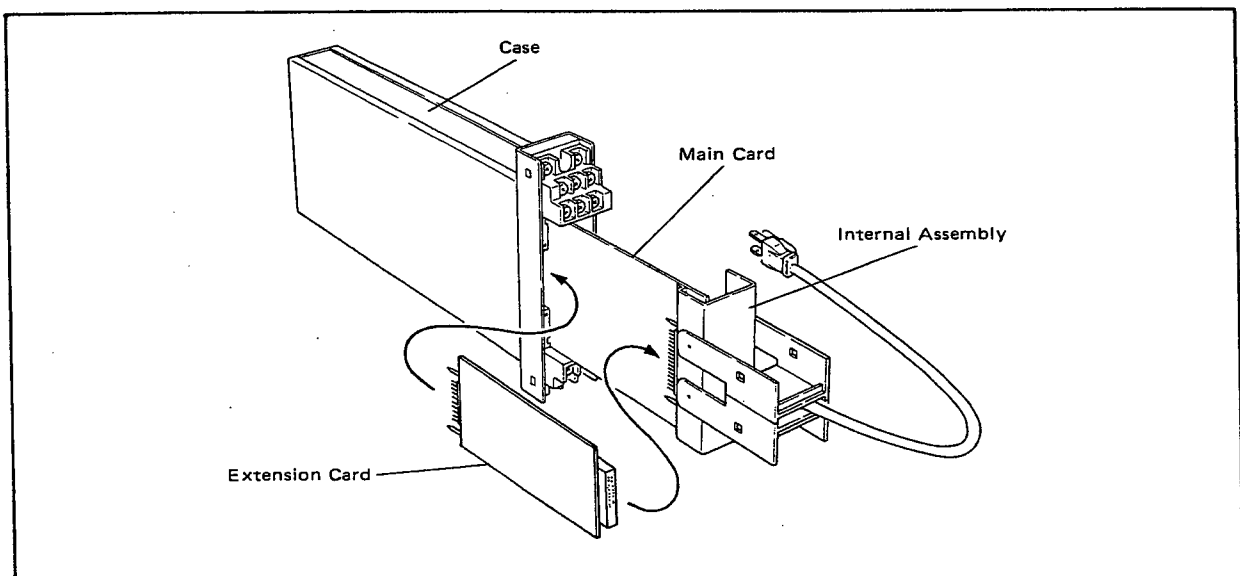

Figure 7-3. Connection of Extension Card.
- (1) Withdraw the internal assembly from the case and connect the extension card between the internal assembly and the case as shown in Figure 7-3.